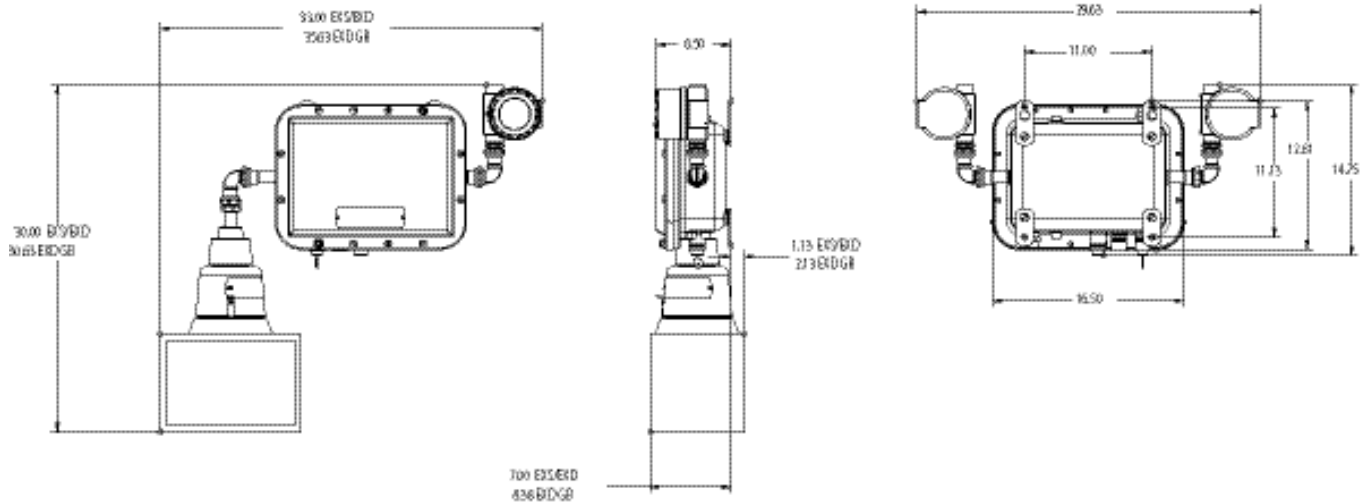

Figure 1. ELPS502 and ELPS502 EXS / EXD Dimensions
1. Select mounting location that will provide suitable strength and rigidity for supporting power supply and attached lighting fixtures. Figure 1 shows the overall dimensions and mounting dimensions for the four (4) mounting feet.